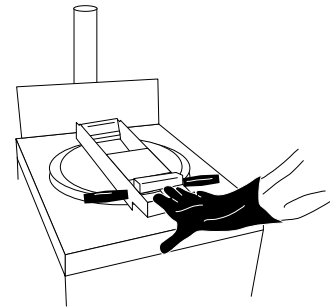

FIGURE 16
- B. Do not touch handlebar to open lid until pressing down on lid lock causes the lid to lower (Figure 16).